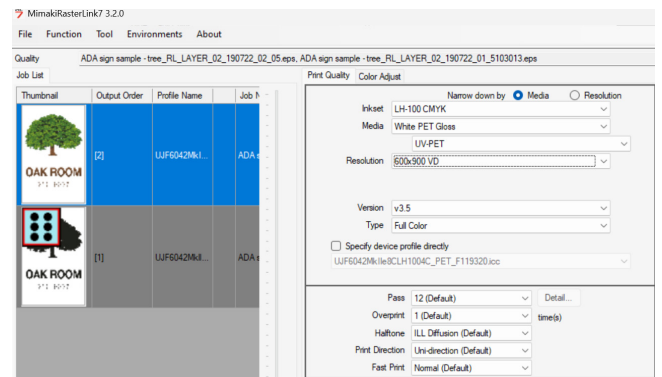

fig. 9
- » Verify print conditions for color layer in the **Quality** tab (*Alt+Q*). *fig 9*